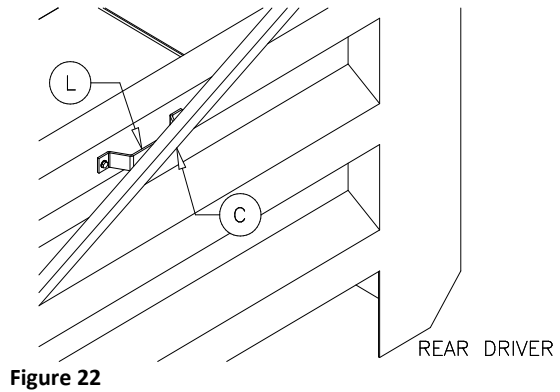

Figure 22
Procedure: Close the tarp. Place a pivot arm guide (L) along one of the ribs in the box wall (see Figure 22). Make sure the guide is aligned with the pivot arm (C) (see Figure 22). Mark the position of the pivot arm guide. Using a 11/32" drill bit, drill two holes into the box wall. Secure the pivot arm guide to the box wall with the 3/8"x1-1/4" self-threading bolts provided.